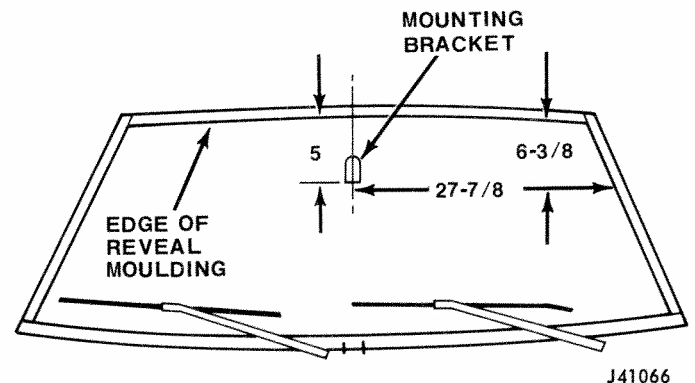

Fig. 17-6 Windshield Mounted Rear View Mirror Bracket Location Dimensions (Inches)
(10) Apply one drop of adhesive at the center of the mirror bracket bonding surface. Use the bottom of the adhesive tube to distribute the adhesive evenly over the entire surface.
(11) Position the bottom straight edge of the bracket on the horizontal line, while centering it on the vertical line (fig. 17-6). Press bracket to glass and hold firmly for one minute. Be sure bracket is properly located - adhesive sets quickly.